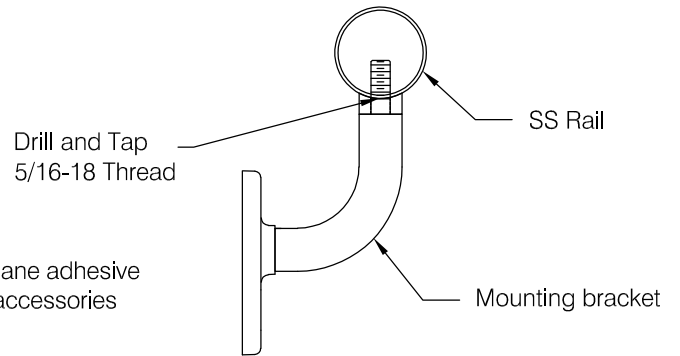

fig 3
- Step 4:** After the adhesive has been allowed to cure to a minimum of handling strength, lay railing on a flat surface with the underside facing up. Wall return and corner accessories will help to stabilize the rail while bracket mounting holes are added. Using a 1/4" diameter drill, locate and drill bracket mounting holes through the underside of the handrail tubing. If the bracket occurs within the area of an internal splice, drill through both the handrail and the splice. Thread bracket mounting holes with a 5/16"-18 taper tap, see **fig 3**.